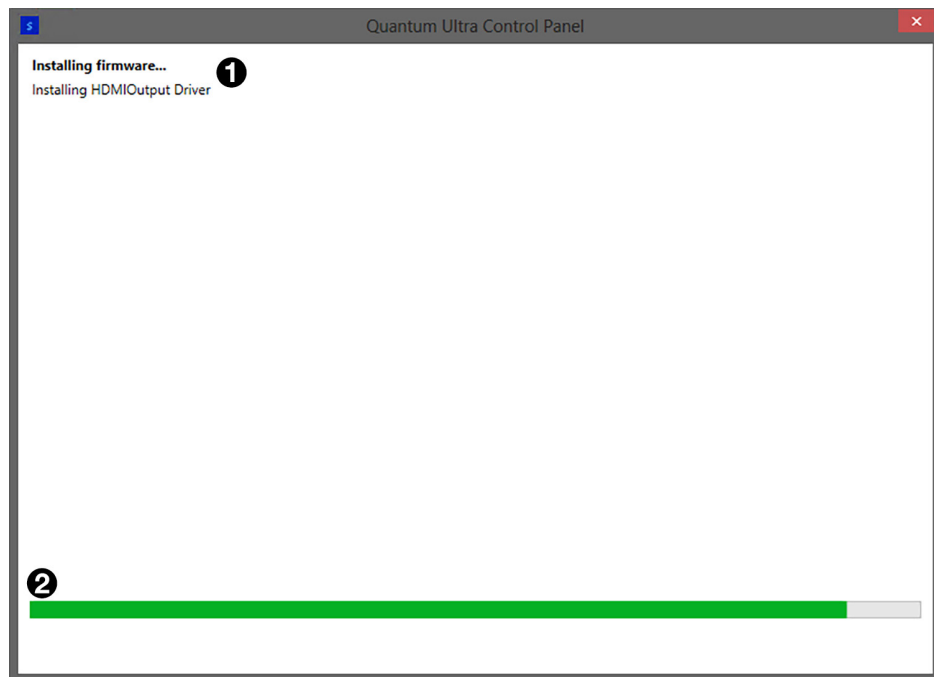

Figure 58. Installation Progress Screen
The **Quantum Ultra Control Panel** screen displays progress messages in the upper-left corner (see figure 58, ❶), while a progress bar (❷) at the bottom of the screen lets you know approximately how much time remains for the installation.